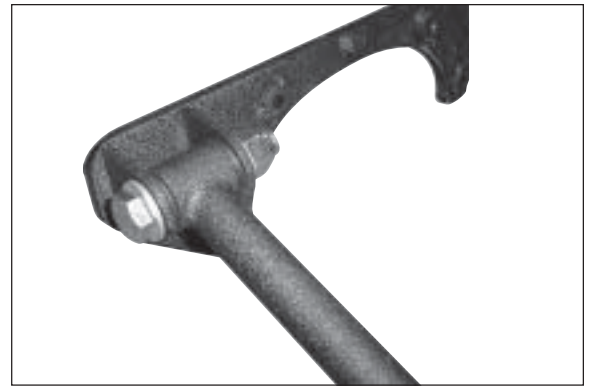

Figure 5
3. Insert opposite end of upper link bar into tabs located on the face of the yoke bracket. Install the retaining bolt (X), two washers (Y), and nylon nut (Z). Loosely bolt in place (Figure 5). Reposition upper link bracket as necessary to align the upper link bar.